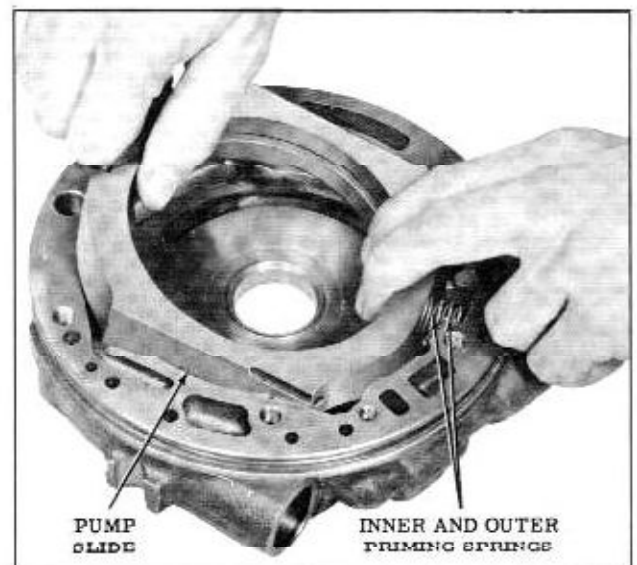

Fig. 3-82 Removing Pump Slide
4. Remove pump slide. (Fig. 3-82)
4. Install the inner and outer priming springs and slide. (Slide will only fit one way). (Fig. 3-82)